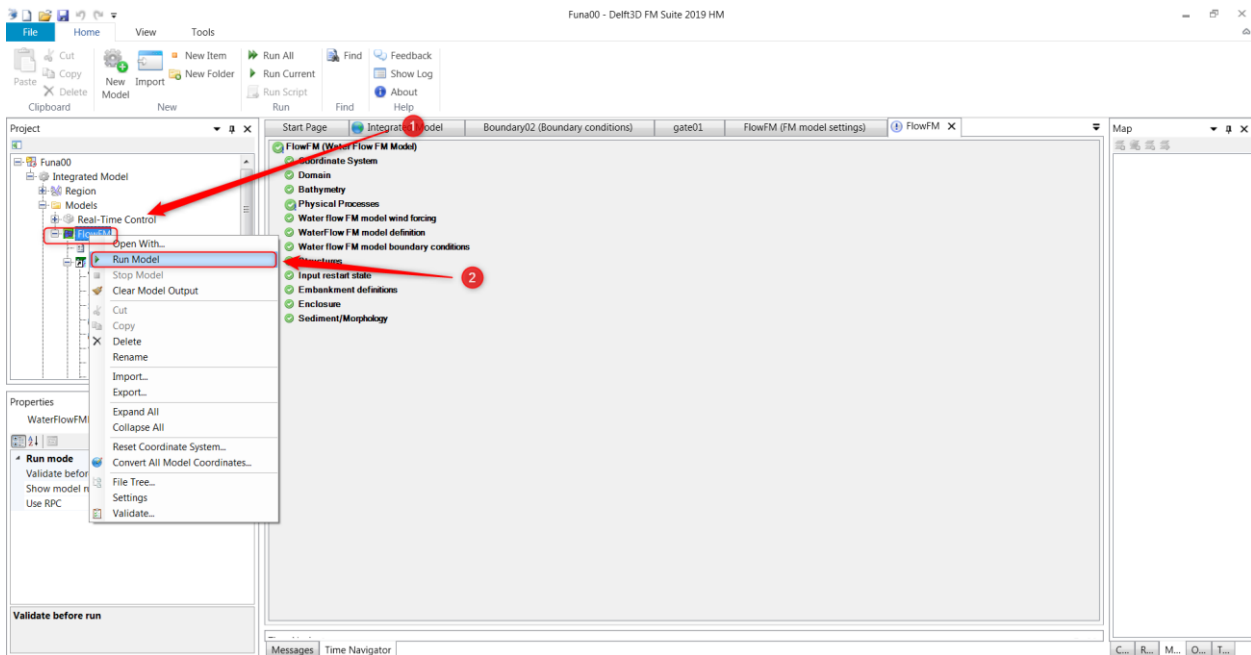
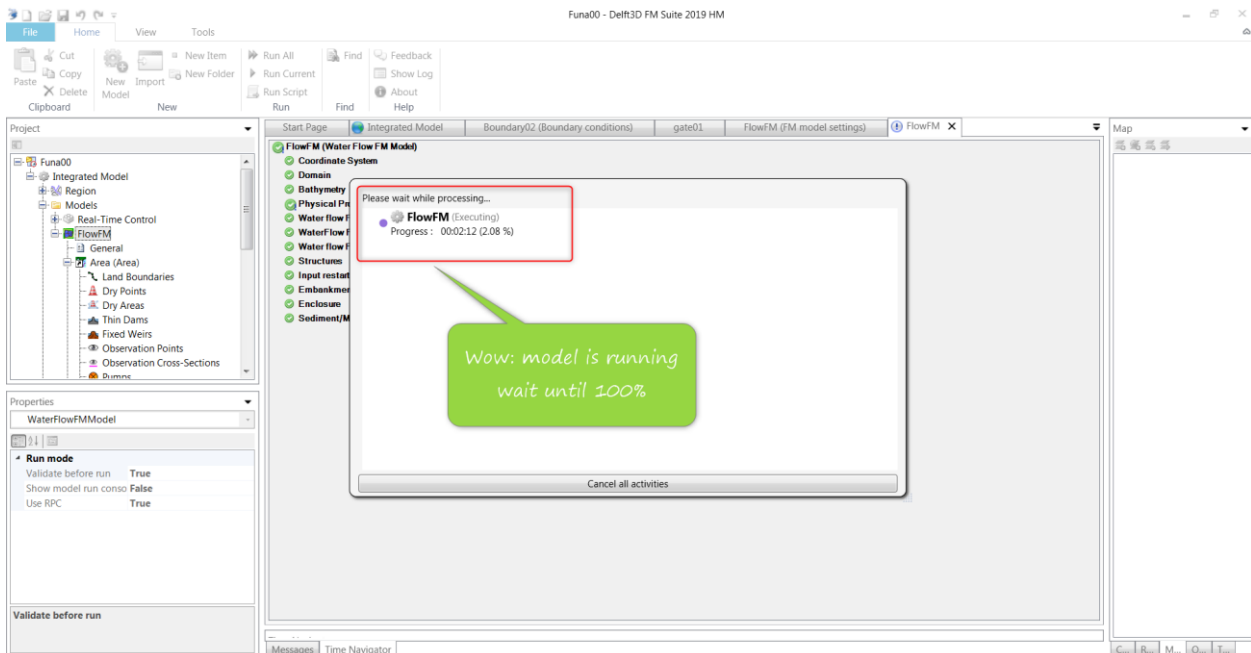

Figure 2.26 Run the model
Figure 2.27 Model is running.
- Click on “Run Model as shown in Figure 2.26. A new screen will pop up to show the simulation progress (see Figure 2.27).